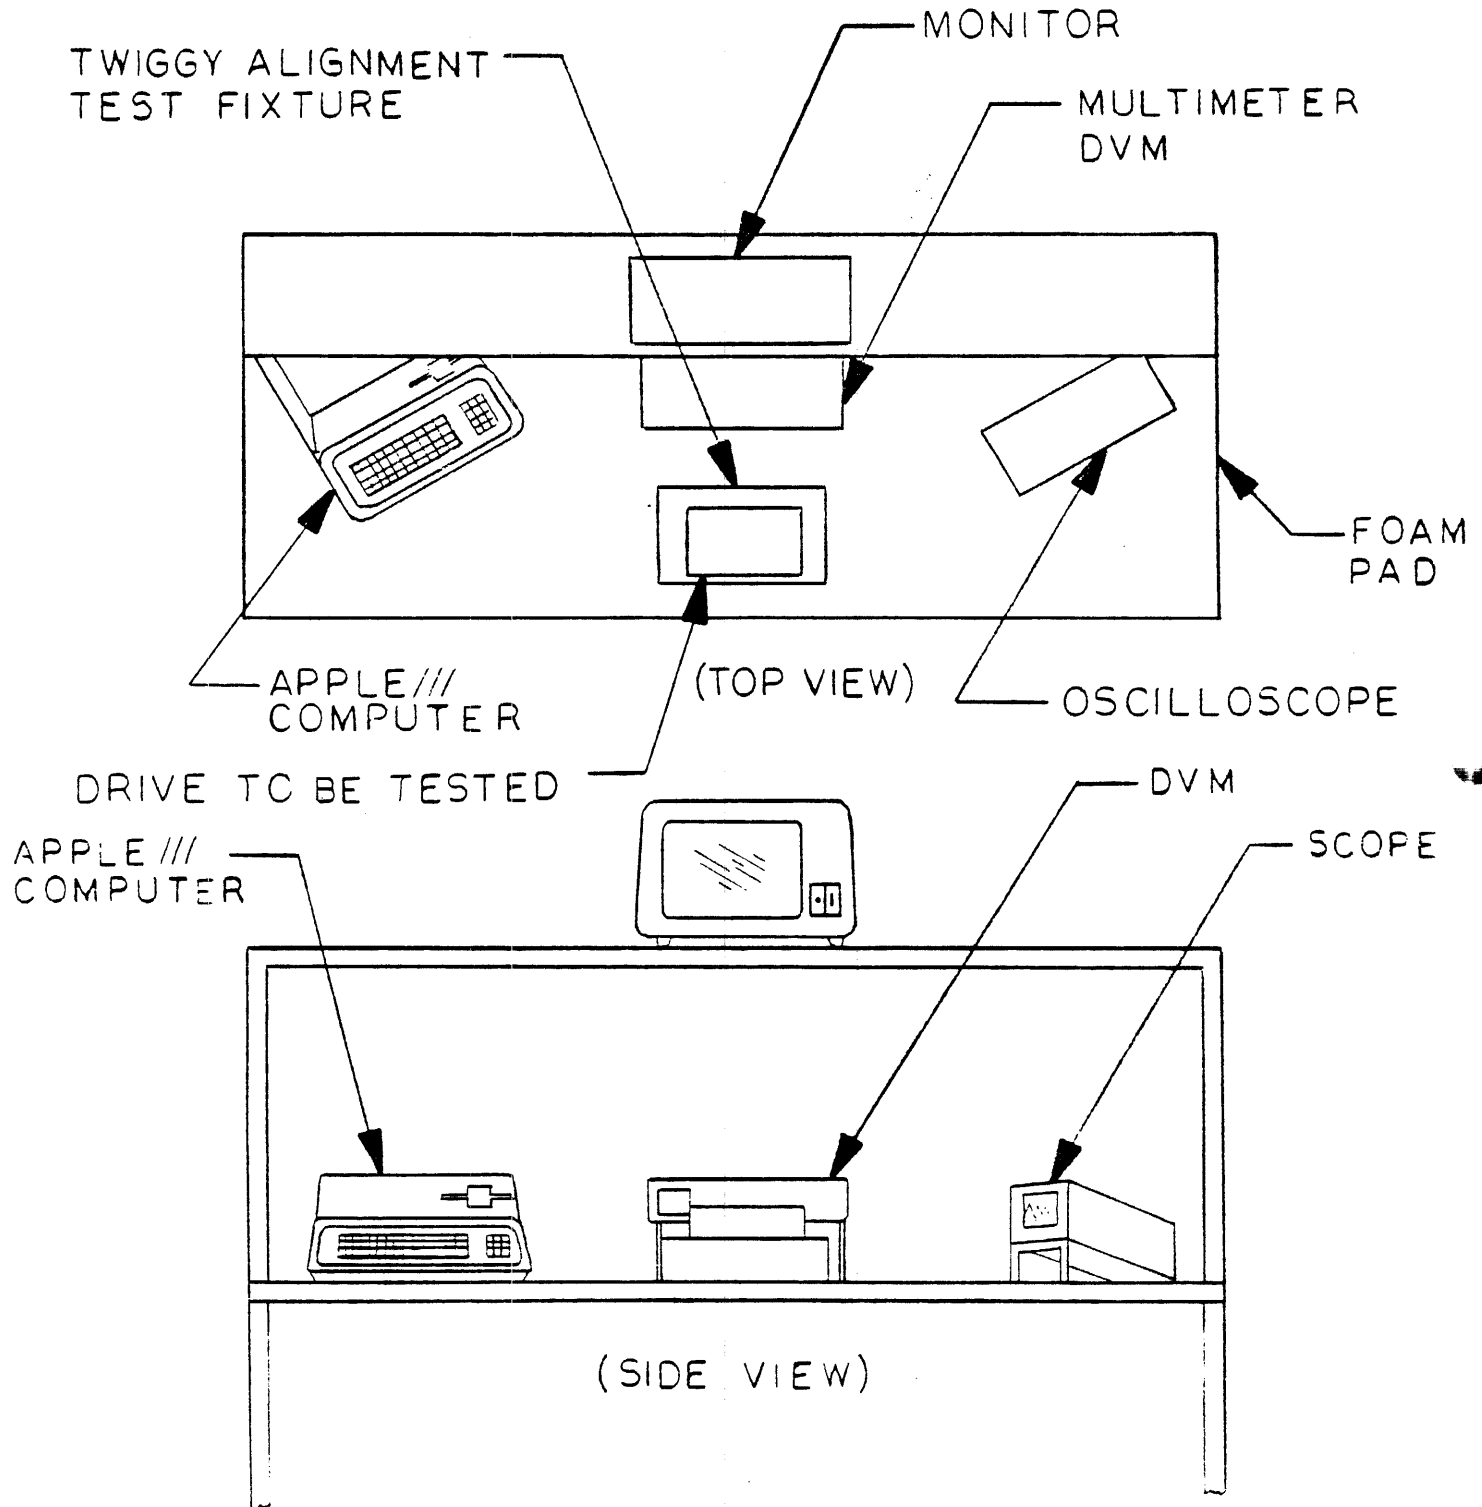

FIGURE 1. THE LAYOUT AT STATION "ALIGNMENT & CALIBRATION"
- 6.1 Lay-out work station as shown in Fig. 1.